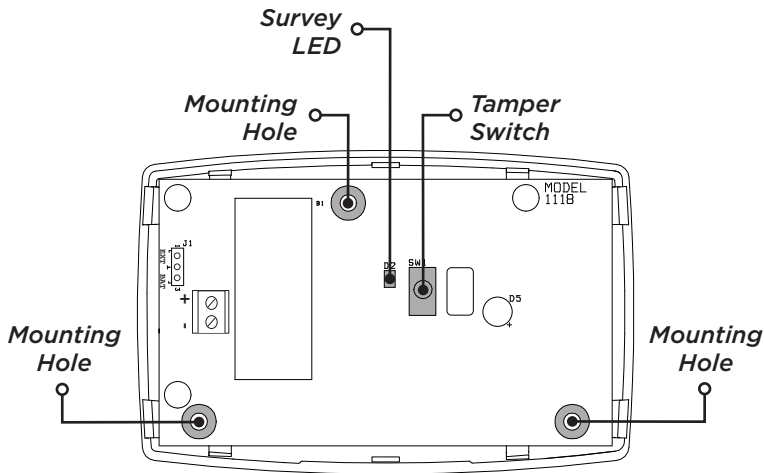

Figure 2: 1118 PCB Features and Mounting Hole Locations
2. Press the tamper switch to send data to the wireless receiver and determine if communication is confirmed or faulty. See Figure 2 for tamper switch and survey LED locations.
Mount the 1118 on a flat surface such as a wall or single-gang box. When using a plug-in power supply, mount the 1118 near a wall outlet. See Figure 2 for mounting hole locations.
Connect the black wire with the white stripe to the positive (+) terminal and the solid black wire to the negative (-) terminal. See Figure 2. Plug the power supply into a 110VAC outlet.